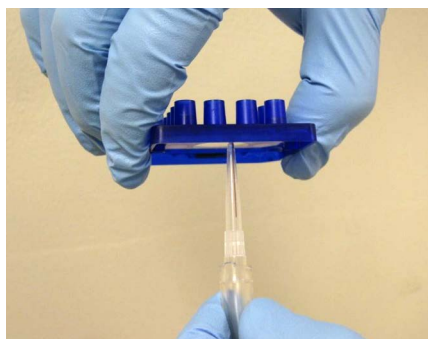

Figure 15. Removing an air bubble or clog by suctioning the sipper with a vacuum
- 18 If air bubbles are not dislodged after a reprime: Fill all active wells with 100 μ L of RNA Chip Storage Buffer, then suction the sipper with a vacuum line as shown in Figure 15 until droplets of fluid flow out from the sipper. When suctioning the sipper, be careful not to bend or break the sipper. To facilitate this, cut the end of the pipette tip attached to the vacuum line to widen the mouth.